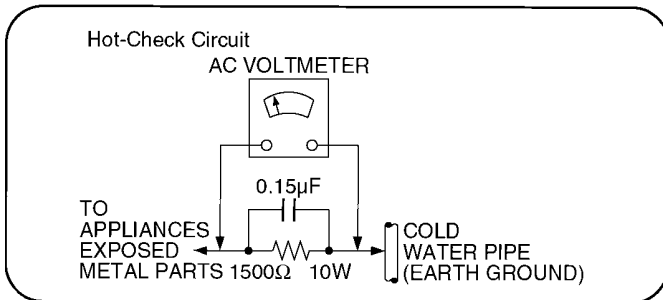

Figure 1
### 1.1.2. LEAKAGE CURRENT HOT CHECK (See Figure 1 .)
2. Connect a  $1.5k\Omega$ , 10 watts resistor, in parallel with a  $0.15\mu F$  capacitors, between each exposed metallic part on the set and a good earth ground such as a water pipe, as shown in Figure 1.